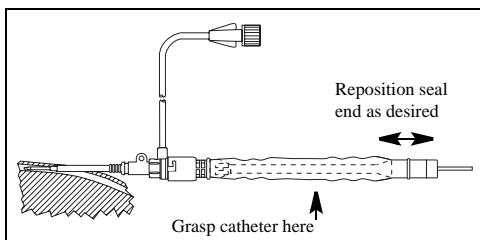

Fig. 11
24. Grasp catheter through front portion of catheter contamination shield and hold in place while repositioning rubber seal end as desired (refer to Fig. 11). **Precaution: Do not reposition rubber seal end on catheter once moved to this final position.**